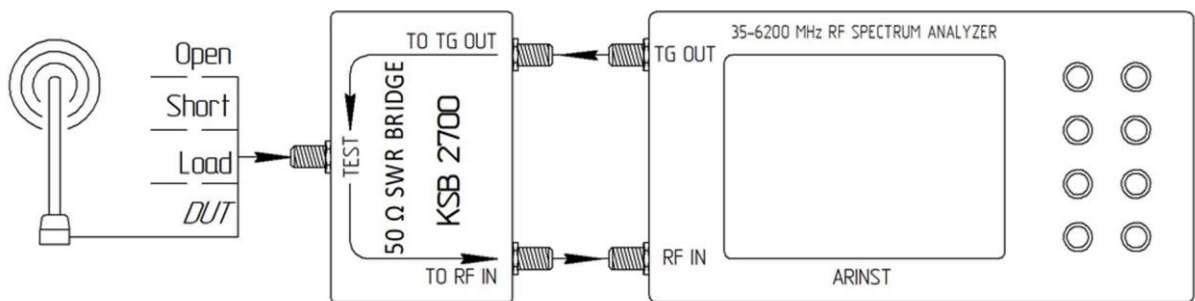

Figure 19 – Connecting the measuring bridge to the spectrum analyzer
Note. To measure the reflection coefficient **S11**, it is necessary to use a directional coupler or measuring bridge at the appropriate frequency range (not included in the package). In our example in figure 19, the **KROKS KSB 2700** measuring bridge is specifically designed for use with ARINST spectrum analyzers.
Connect the output of the signal generator (1) **TG OUT** of the device to the input of the measuring bridge **TO TG OUT** according to the wiring diagram in figure 19.
Designations in Figure 19:
Note. To measure the standing wave ratio, you must use a directional coupler or measuring bridge (not included in the package). In our example in figure 19, the **KROKS KSB 2700** measuring bridge is specifically designed for use with ARINST spectrum analyzers.
Connect the output of the signal generator (1) **TG OUT** of the device to the input of the directional measuring bridge **TO TG OUT** according to the wiring diagram in figure 19. Output of the reflected signal from the measuring bridge port **TO RF IN** connect to the antenna input of the device (2) **RF IN**.